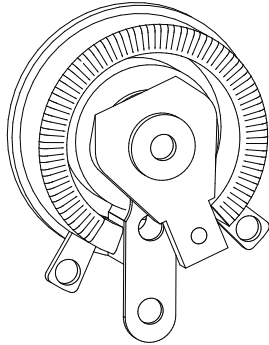

Figure 16. Rheostat (VR)
The rheostat (Figure 16) is a variable resistor (VR) connected directly to the AVR and is used for fine tuning output voltage.